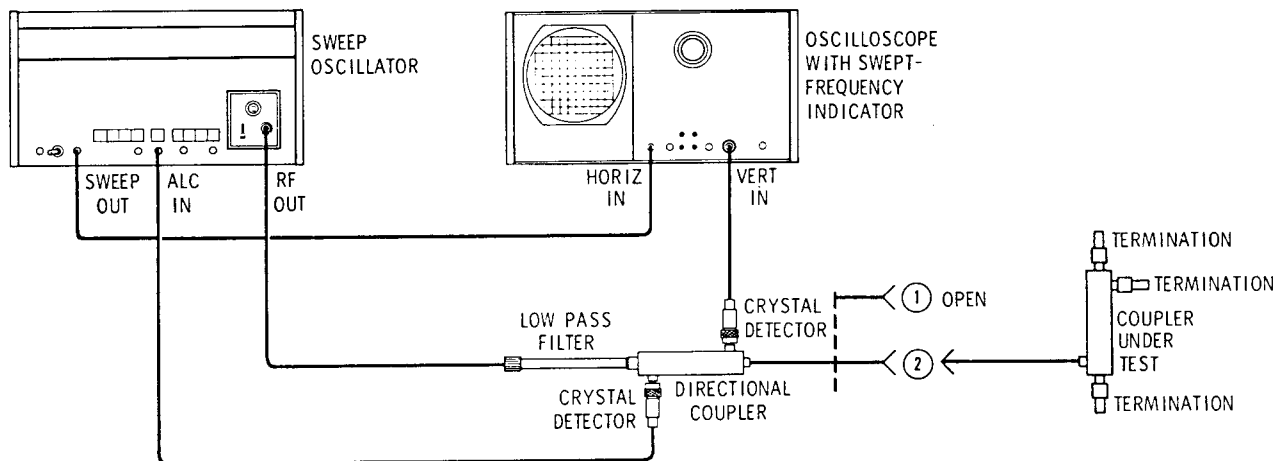

Figure 10 Swept-Frequency Auxiliary Arm SWR Test Setup
To test a 775D use another good 775D as the directional coupler in Figure 10.
Description Refer to Figure 10 for test setup and for test equipment.
1. Connect the equipment as shown at (1) in **Figure 10**.
- a. Connect the 775D under test as shown at (2) in **Figure 10**.